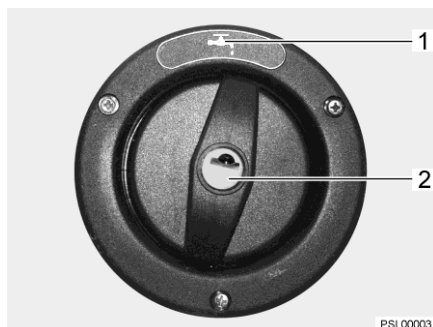

Fig. 131 Cap for the drinking water filler neck
The drinking water filler neck is indicated by the symbol "⚙️" (Fig. 131,1). The cap is opened and closed using the key for the external flap locks.
- Insert key into locking cylinder (Fig. 131,2) and turn a quarter turn in an anticlockwise direction.
- Open drinking water filler neck (Fig. 131).